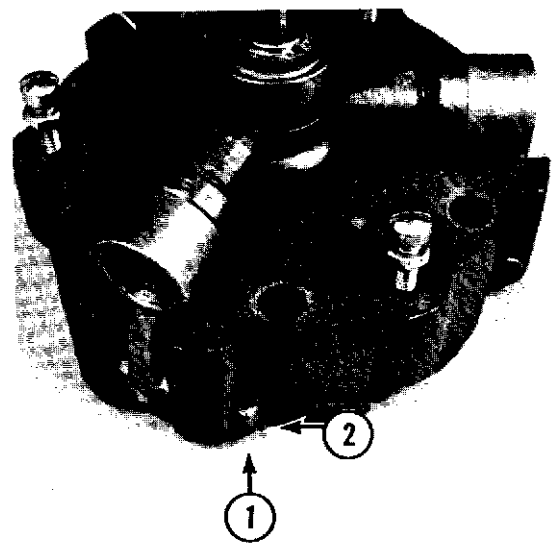

Fig. 9-8
- (3) Remove the cotter pins (1, Fig. 9-8) and take off the pivot pins (2, Fig. 9-8).